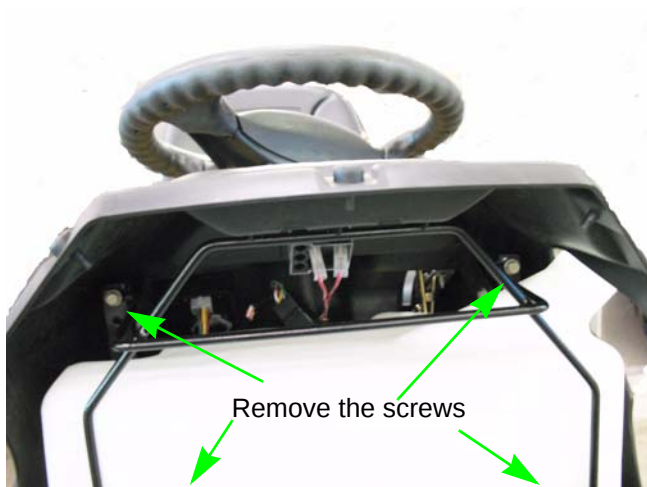

Figure 2.7
3. Remove the four screws that secure the fuel tank support rod. See Figure 2.7.